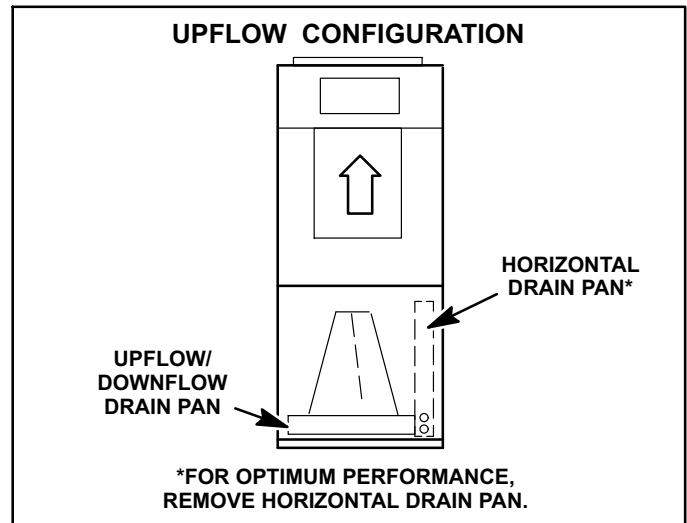

FIGURE 18
- 3- After removing horizontal drain pan, place unit in desired location. Set unit so that it is level. Connect return and supply air plenums as required using sheet metal screws. See figure 18.